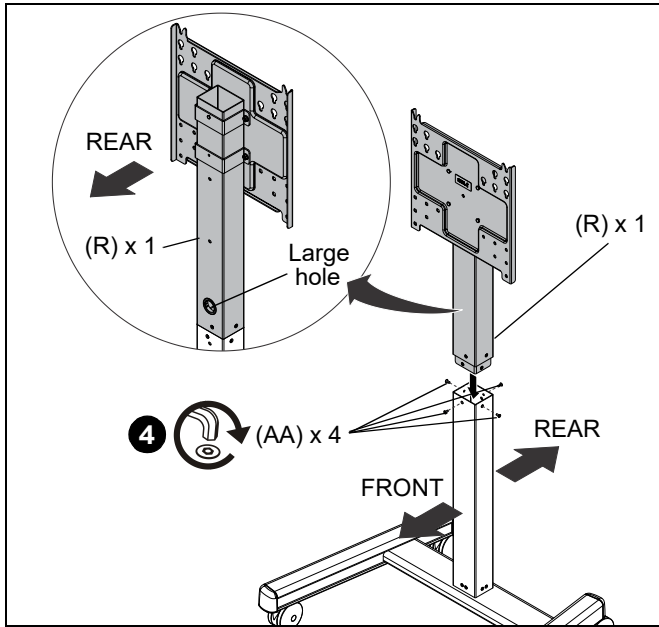

Figure 4
4. Attach the upper column (R) to the lower column (Q) using four 10-24 x 1/2" flat head screws (AA). (See Figure 4)